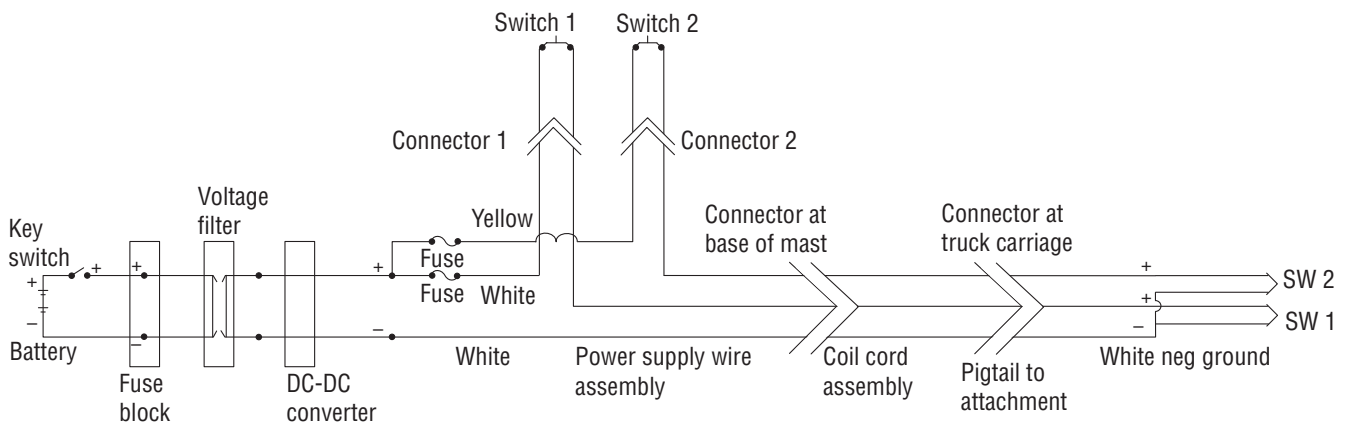

Figure 1-14 24- to 48-volt truck installation
- Use a DC-DC voltage converter. On trucks with regenerative braking, also add a voltage filter as shown in Fig. 1-14, below. Consult factory for availability.